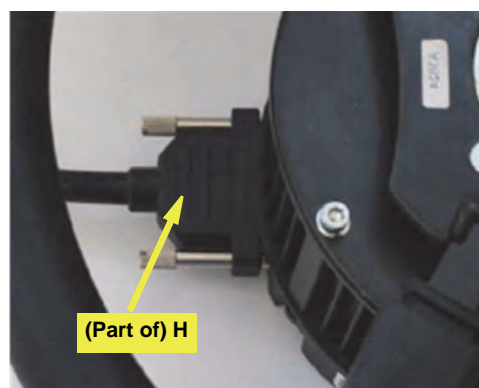

Figure 5b: Junction box comms cable connected to steering wheel assembly
- c. Clip the junction box **H** into place on its bracket **I** (neither shown) then connect **H**’s 15-pin connector cable to the communications port on the steering wheel assembly (Figure 5b). Use clip **K** suitably (not shown).